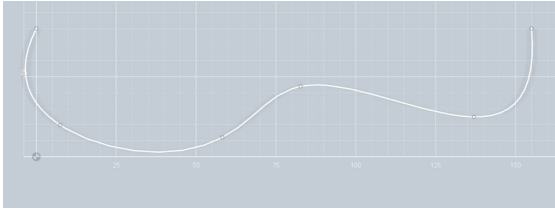

Figure 4-133 Use the Spline tool to create the two curves along one side of a guitar body
2. Use the Spline tool to create the shape shown in Figure 4-133. Don't hit the checkbox yet!